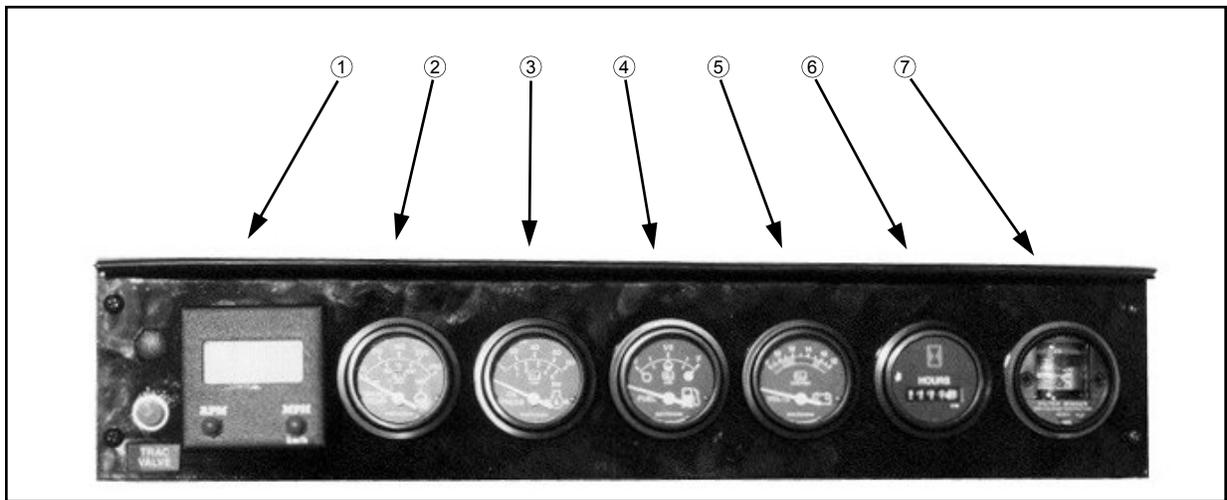

FIG 5.44
Speedometer/Tachometer - (fig. 5.44, item 1) Unit will display either engine RPM or speed of travel depending on operator's selection. See pages 66-67 for more information on the speedometer/tachometer.
Water Temperature - (fig. 5.44, item 2) The water temperature gauge monitors the engine cooling system. A "RED" indicator light alerts the operator of unsafe operating temperatures.
Engine Oil Pressure - (fig. 5.44, item 3) The oil pressure gauge monitors pressure of the engine lubricating system. A "RED" indicator light alerts the operator of low level operation.
Fuel Gauge - (fig. 5.44, item 4) The fuel gauge measures the amount of fuel in either fuel tank, depending on the tank selected with the fuel switch. A "YELLOW" indicator light alerts operator of low level operation.
Volt Meter - (fig. 5.44, item 5) The volt meter measures voltage from the alternator on the diesel engine. A "RED" indicator light will alert the operator if the system is operating either too low or too high.
Hour Meter - (fig. 5.44, item 6) The hour meter progressively records elapsed time of detasseler operation. It is useful for determining service intervals.
Filter Minder (diesel only) - (fig. 5.44, item 7) See page 88 for information regarding the air filter monitoring system.